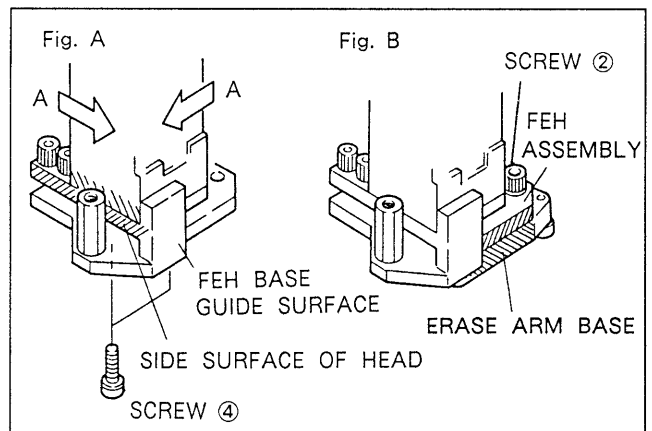

Fig. 6-18-5. Mounting Position Adjustment
- ① Mounting surface between the full erase head and FEH base
- ② Mounting surface between the FEH base and erase arm base
- 2) Mounting Position Adjustment (See Fig. 6-18-5.)
① Mounting position of full erase head and FEH base (Refer to Fig. A.)